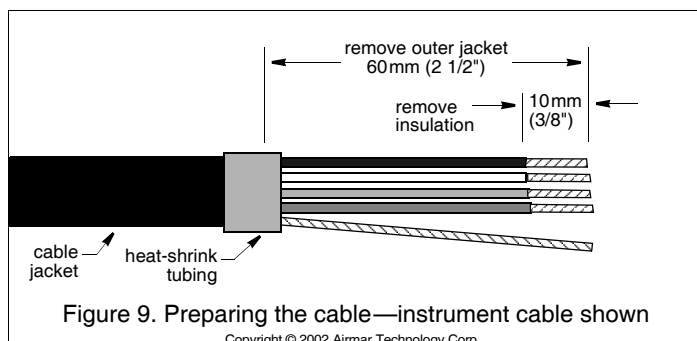

Figure 9. Preparing the cable—instrument cable shown
5. Strip 60mm (2-1/2") of the outer jacket and foil shielding from the cut ends of the power and instrument cables (Figure 9).